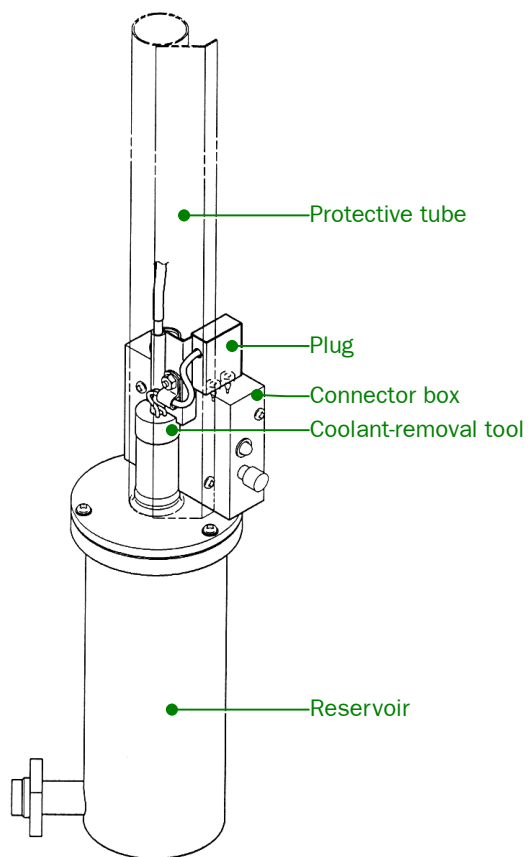

Fig. 5.43 Coolant evaporator(Mounted on the anti-contamination device)
- a. Slide the protective tube as far in as it will go (☞ Fig.5.43).
- c. Insert the heater assembly into the coolant tank and insert the heater plug into the HTR socket on the connector box (See Fig. 5.43).